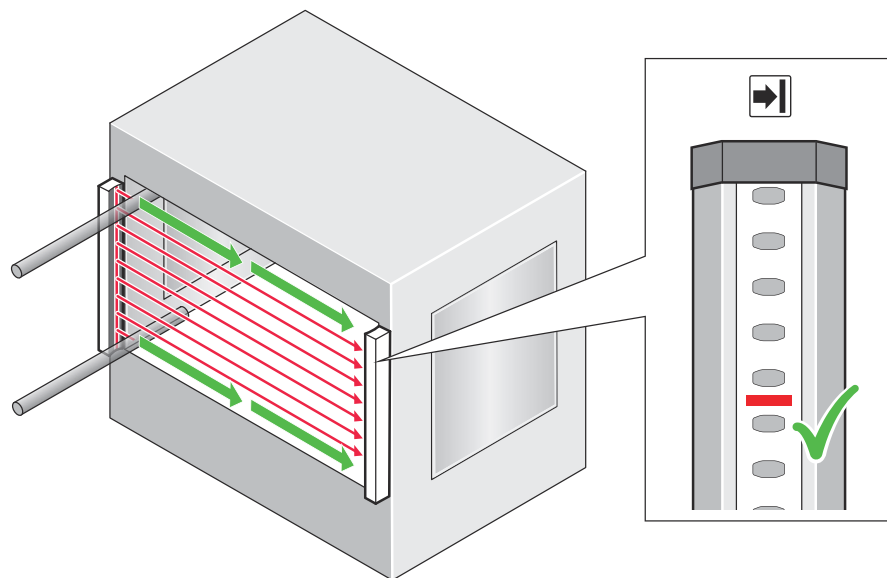

Figure 42: Test rod check: Step 3
3. Then, guide the test rod along the edges of the area to be protected, as indicated by the arrow, see figure 42.